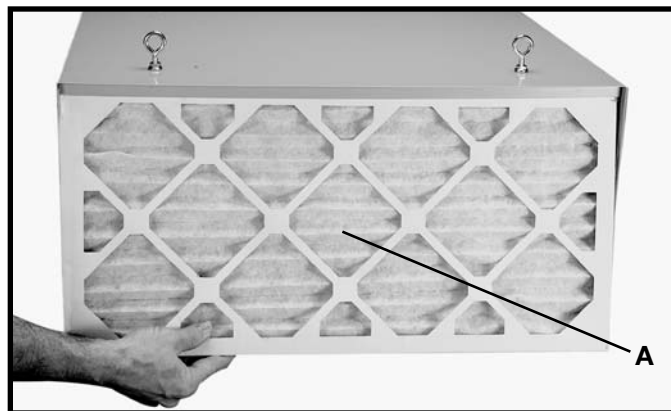

Fig. 11
1. To remove the outer first stage filter (A) Fig. 11, lift and pull out the bottom of the filter.